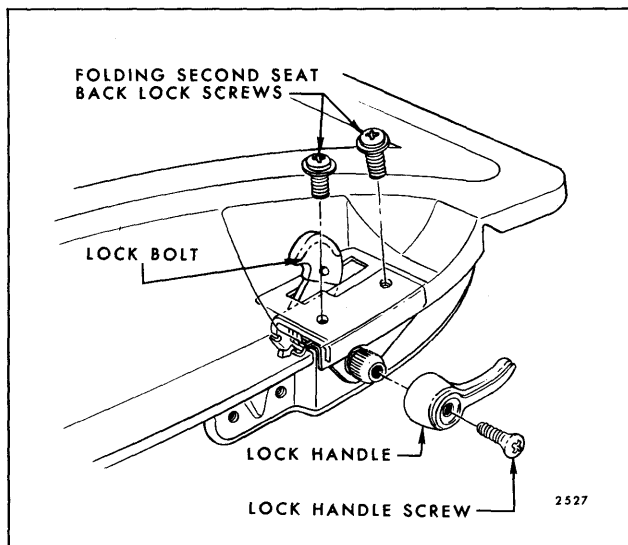

Fig. 15-70—Folding Second Seat Back Lock Installation - All "A & B" Station Wagons (Except "A-65" Styles)
2. Remove seat back lock handle attaching screw (Fig. 15-70) and remove lock handle.
3. Remove seat back lock attaching screws (Fig. 15-70) and remove seat back lock from seat back panel.